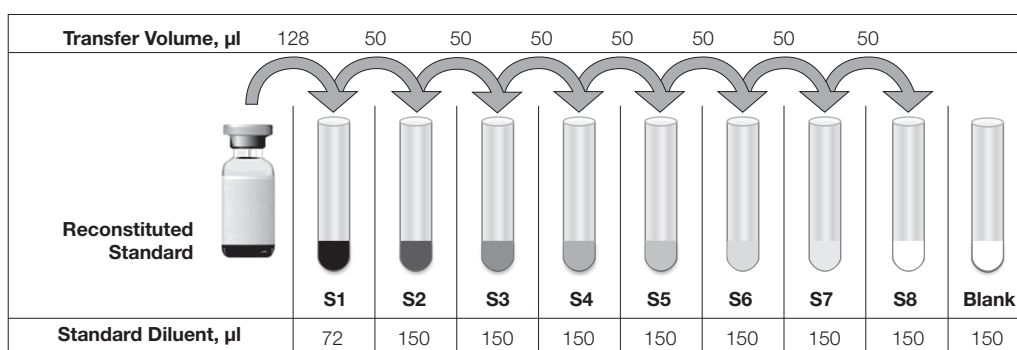

Fig. 3. Preparing a fourfold dilution series of mouse cytokine standards.
6. Add the specified volume of standard diluent to each tube (Figure 3).
9. Continue with 1:4 (fourfold) serial dilutions from tube S2 to S8, as shown in Figure 3. Use reconstituted and diluted standards immediately. Do not freeze for future use.